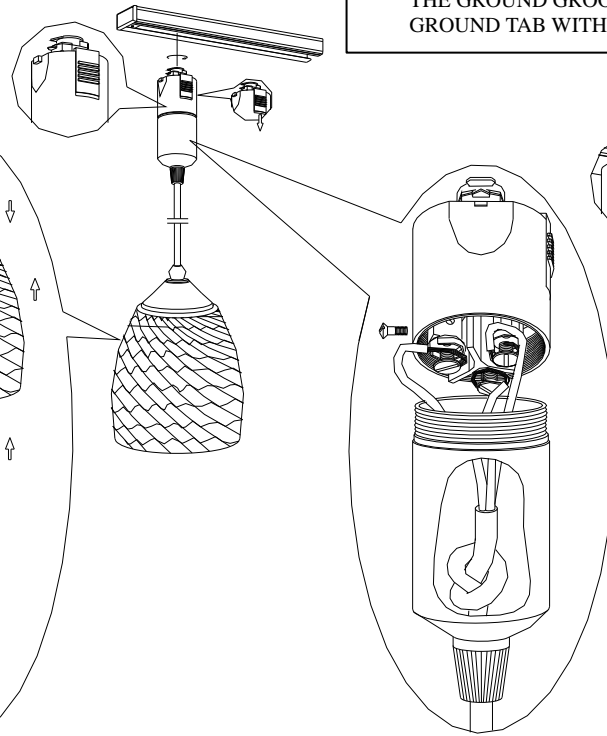

Fig.1
1. On the Adapter, remove the set screw on the side of the top end of the adapter as shown in Figure 1. Unscrew the bushing and slide it down the wire a few inches. Keep these parts handy for the final installation.
2. Separate the top and bottom portions of the adaptor by unscrewing them from one another. The two parts of the adapter are joined with screw threads inside the top and bottom section. (See Figure 1)
3. Remove the three (3) wires connected to the three (3) screws inside the top of the adapter. Loosen the knot. Remove the bottom portion of the adapter, and the bushing from the wire.